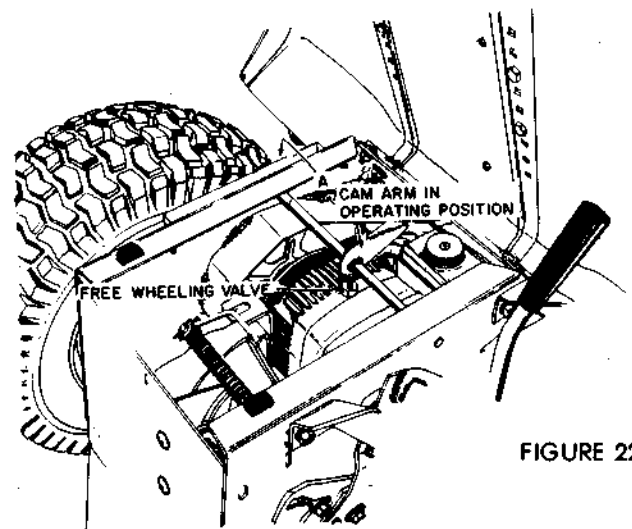

FIGURE 22
2. Remove nut A, Figure 22 from the left end of the cam assembly shaft and slide the cam assembly to the right until the cam arm is free of the valve actuating rod.
8. Replace cam assembly, Figure 22. Tighten nuts A so the cam arm intersects the center of the valve actuating rod and the shaft has 1/32" end play.